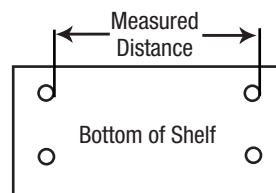

Figure 1
STEP 1: Select the desired location for the Shelf Kit, measure the hole distance located on the bottom of the shelf for the correct distance between Corbels as shown in **Figure 1**.